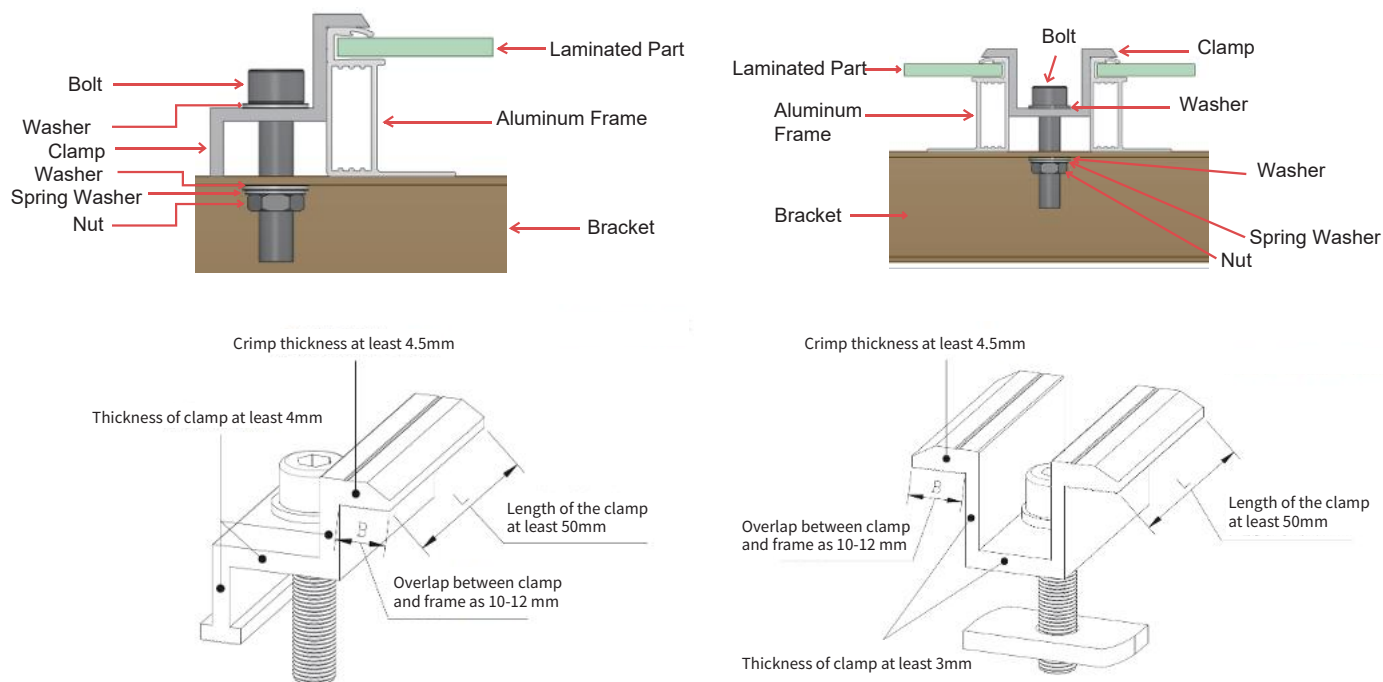

Figure 5 Clamp Installation of Modules
- (2) When using LONGi 30 mm height frame module,(Figure 5) it is recommended to select overall length $\leq 25\text{mm}$ fasteners. (If there is a special model, consult LONGi customer service personnel).
The module can be mounted by a dedicated clamp, as shown in Figure 5.